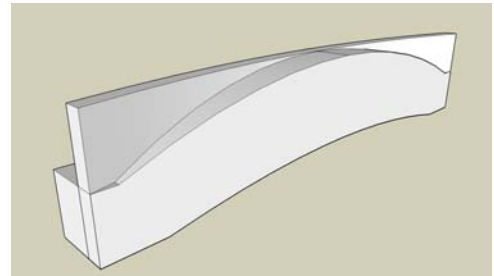

Figure 4. Intermediate result
7. Use Push/Pull to extrude the arc to the bottom of the “block”. Select the extruded shape and make it a group. The result should look like Figure 4.